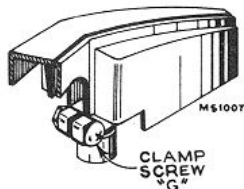

Fig. 39
1. With the mechanism out of cycle and the clamp screw (G) (Fig. 39) loose, place pickup arm on the rest and tighten clamp screw enough to prevent the clamp from slipping on the shaft.